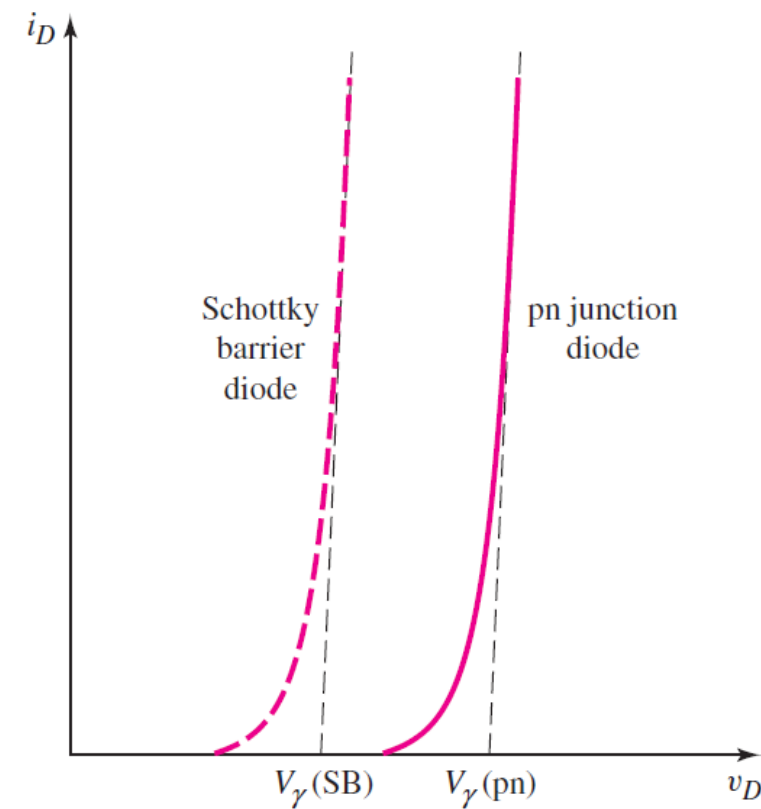

Figure 1.42
- Figure 1.42 compares the characteristics of the two diodes, the Schottky diode has a **smaller turn-on voltage** than the pn junction diode.